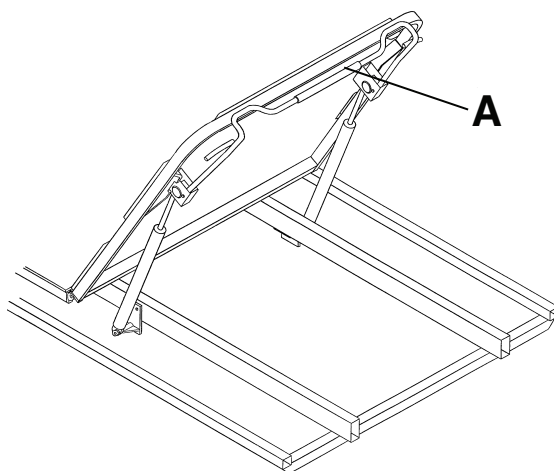

Figure 5 – Pneumatic Fowler
To raise the Fowler backrest, squeeze the red Fowler backrest release handle (A) and pull the Fowler backrest up to the desired position (Figure 5).